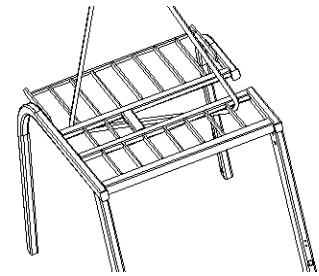

Figure 2-23
(2) Figure 2-23 shows how to lift the top shelf